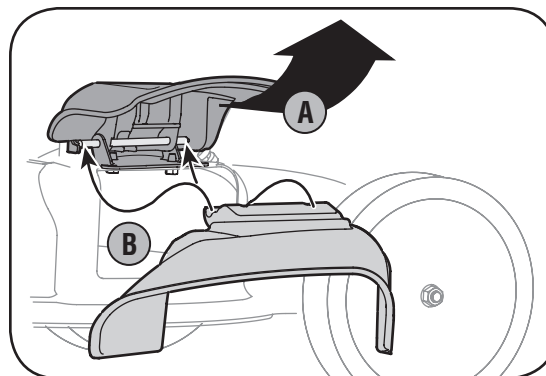

Figure 3-9
- a. On the side of the mower deck, lift the hinged mulching plug. See Figure 3-9.